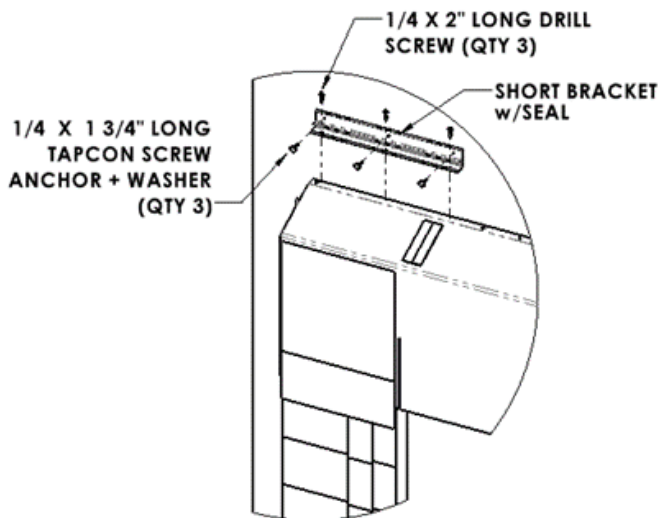

FIGURE 13
10. ATTACH THE (2) SHORT BRACKETS W/SEALS (B) TO THE TOP ENDS OF THE HOOD (E):
- Position the Short Brackets w/Seal (B) on the top left end of the Hood (E) and flush with the left end face of the 2x4 Header (F).
- The seal side has to lay flat on the top of the Hood (E).
- A total of (6) mounting holes need to be drilled in each Short Bracket w/Seal (B) for 3 fasteners into the building and 3 fasteners into the Hood (E) (Figure 13).
- Mark the (6) drilling locations on the bracket legs and then drill holes for the specified fastener sizes. Ensure the location of the end vertical screw is not in line with the horizontal anchor at the end of the 2x4 Header (F) and also not in line with the Roofing Nail (J) on the top end of the Hood (E).
- Use a 3/16" diameter masonry drill bit when drilling the 3 holes into the bracket for the 1/4"x1 3/4" Long Tapcon Screw Anchors (H).
- Secure the Short Brackets w/Seal (B) using the provided fasteners as shown below (Figure 13).